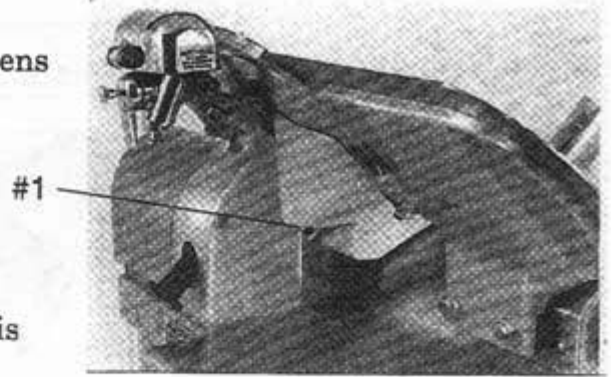

Figure 14-1
5. **SLICE DEFLECTOR:** The slice deflector (#1) is mounted on a retaining guide pin. To remove the slice deflector, pull completely forward and remove deflector (Fig. 14-1)